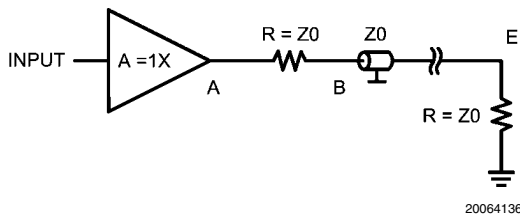
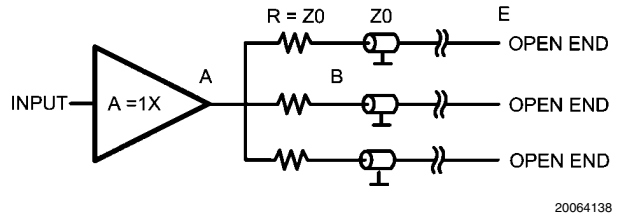
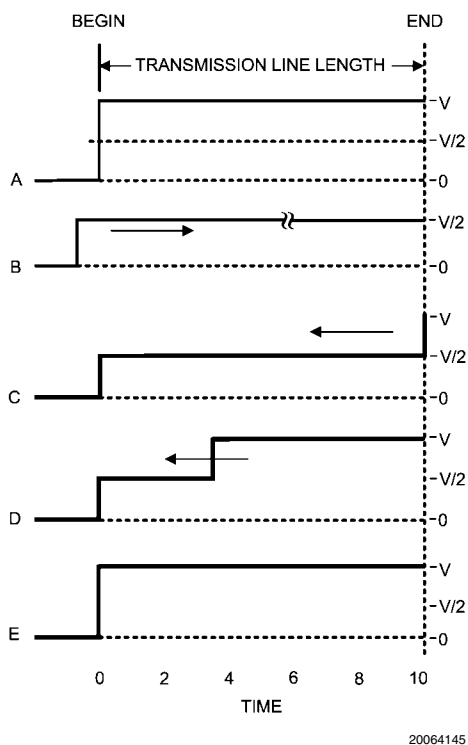

FIGURE 1.
FIGURE 3.
FIGURE 6.
- Use one buffer to drive one transmission line (see Figure 1)
- Use one buffer to drive several transmission lines each driving a different receiver. (see Figure 3)
examine is what happens when the load is connected to the transmission line. When driving a load, it is important to match the line and load impedance, otherwise reflections will occur and this phenomena will distort the signal. If a transient is applied at $T = 0$ (*Figure 6*, trace A) the resultant waveform may be observed at the start point of the transmission line. At this point (begin) on the transmission line the voltage increases to (V) and the wave front travels along the transmission line and arrives at the load at $T = 10$. At any point across along the line $I = V/Z_0$, where Z_0 is the impedance of the transmission line. For an applied transient of 2V with $Z_0 = 50\Omega$ the current from the buffer output stage is 40mA. Many vintage opamps cannot deliver this level of current because of an output current limitation of about 20mA or even less. At $T = 10$ the wave front arrives at the load. Since the load is perfectly matched to the transmission line all of the current traveling across the line will be absorbed and there will be no reflections. In this case source and load voltages are exactly the same. When the load and the transmission line have unequal values of impedance a different situation results. Remember there is another basic which says that energy cannot be lost. The power in the transmission line is $P = V^2/R$. In our example the total power is $2^2/50 = 80mW$. Assume a load of 75 Ω . In that case a power of 80mW arrives at the 75 Ω load and causes a voltage of the proper amplitude to maintain the incoming power.
Many applications, such as video, use a series resistance between the driver and the transmission line (see Figure 1). In this case the transmission line is terminated with the characteristic impedance at both ends of the line. See Figure 6 trace B. The voltage traveling through the transmission line is half the voltage seen at the output of the buffer, because the series resistor in combination with Z_0 forms a two-to-one voltage divider. The result is a loss of 6dB. For video applications, amplifier gain is set to 2 in order to realize an overall gain of 1. Many operational amplifiers have a relatively flat frequency response when set to a gain of two compared to unity gain. In trace B it is seen that, if the voltage reaches the end of the transmission line, the line is perfectly matched and no reflections will occur. The end point voltage stays at half the output voltage of the opamp or buffer.
Another way to reach several points via a transmission line is to start several lines from one buffer output (see Figure 3). This is possible only if the output can deliver the needed current into the sum of all transmission lines. As can be seen in this figure there is a series termination used at the beginning of the transmission line and the end of the line has no termination. This means that only the signal at the endpoint is usable because at all other points the reflected signal will cause distortion over the line. Only at the endpoint will the measured signal be the same as at the startpoint. Referring to Figure 6 trace C, the signal at the beginning of the line has a value of $V/2$ and at $T = 0$ this voltage starts traveling towards the end of the transmission line. Once at the endpoint the line has no termination and 100% reflection will occur. At $T = 10$ the reflection causes the signal to jump to $2V$ and to start traveling back along the line to the buffer (see Figure 6 trace D). Once the wavefront reaches the series termination resistor, provided the termination value is Z_0 , the wavefront undergoes total absorption by the termination. This is only true if the output impedance of the buffer/driver is low in comparison to the characteristic impedance Z_0 . At this moment the voltage in the whole transmission line has the nominal value of $2V$ (see Figure 6 trace E). If the three transmission lines each have a different length the particular point in time at which the voltage at the series termination resistor jumps to $2V$ is different for each case. However, this transient is not transferred to the other lines because the output of the buffer is low and this transient is highly attenuated by the combination of the termination resistor and the output impedance of the buffer. A simple calculation illustrates the point. Assume that the output impedance is 5Ω . For the frequency of interest the attenuation is $V_B/V_A = 55/5 = 11$, where A and B are the points in Figure 3. In this case the voltage caused by the reflection is $2/11 = 0.18V$. This voltage is transferred to the remaining transmission lines in sequence and following the same rules as before this voltage is seen at the end points of those lines. The lower the output resistance the higher the decoupling between the different lines. Furthermore one can see that at the endpoint of these transmission lines there is a normal transient equal to the original transient at the beginning point. However at all other points of the transmission line there is a step voltage at different distances from the startpoint depending at what point this is measured (see trace D).